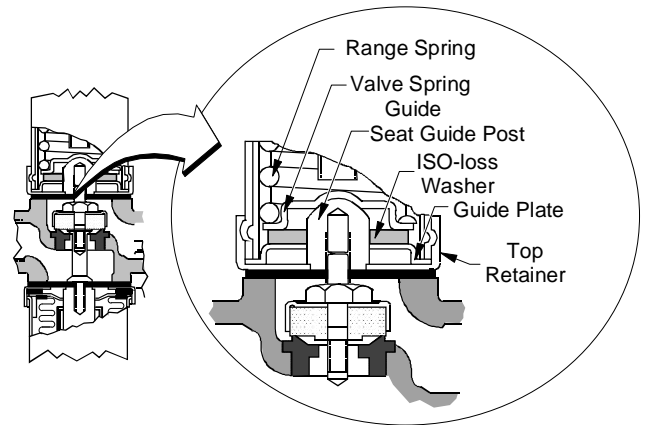

Figure 7: ISO-loss Washer
- b. Remove the range adjusting screw, spring, and valve spring guide (Figure 7).